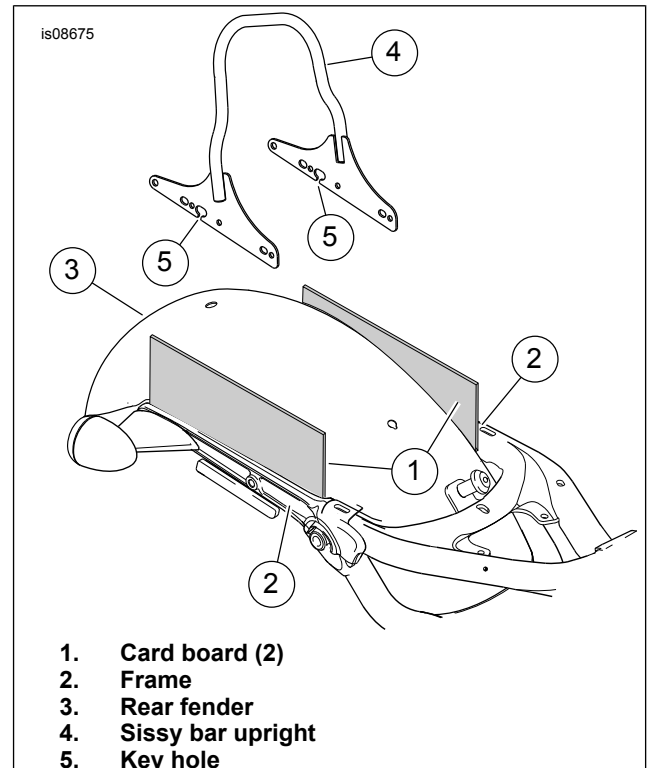

Figure 2. Cardboard, Frame, Fender, Sissy Bar and Key Hole
7. See Figure 2. Slide cardboard (1) between the fender (3) and frame (2).